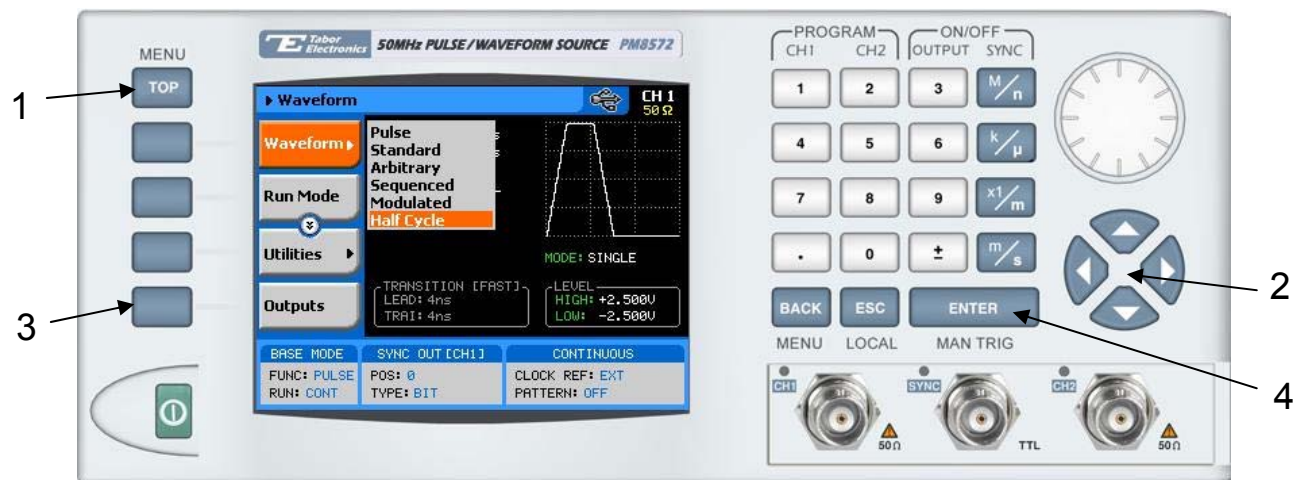

Figure 3-81, Accessing the Digital Pattern Menus
3. Press the Auxiliary Functions soft key and scroll down to highlight the Half Cycle option, as shown in Figure 3-81.